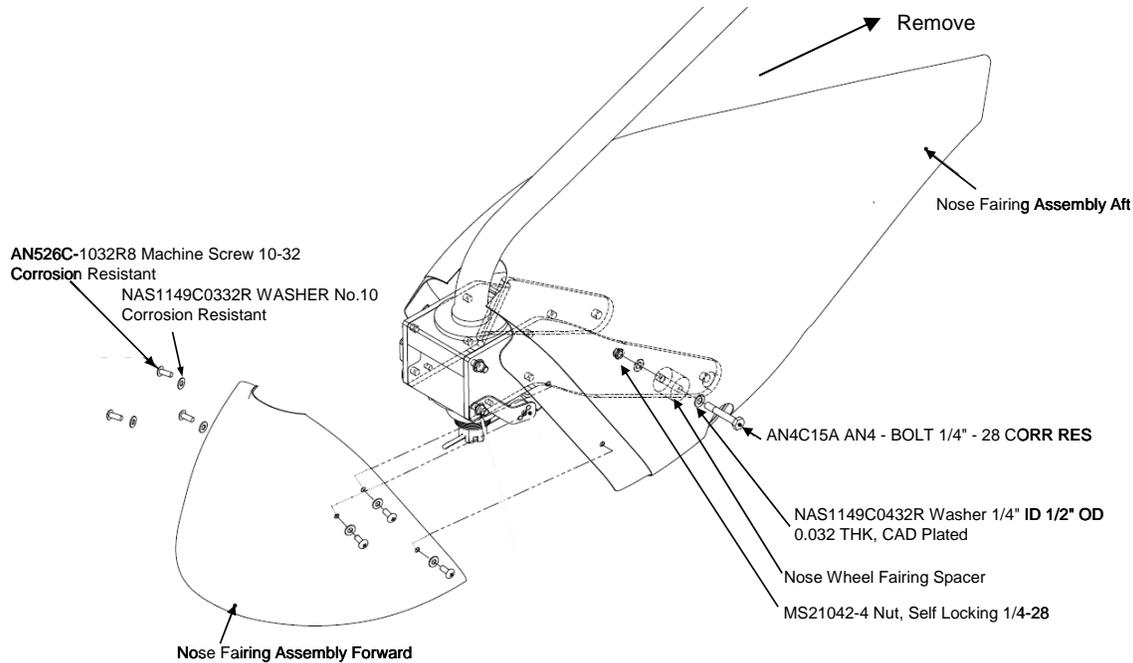

Figure 32-10 Nose Wheel Fairing Installation
2. Remove the nose wheel fairing assembly forward screws (6) and washers (6). Remove the nose fairing assembly forward as shown in Figure 32-10.
3. Remove the nose wheel fairing assembly aft bolts (2), spacers (2), and washers (4). Remove the fairing aft clear of the nose wheel assembly as shown in Figure 32-10.
3. Install the fairing aft nose wheel assembly as shown in Figure 32-10. Install the nose wheel fairing assembly aft bolts (2), spacers (2), and washers (4). Do not torque hardware at this time.
4. Install the nose fairing assembly forward as shown in Figure 32-10. Install the nose wheel fairing assembly forward screws (6) and washers (6). Do not torque hardware at this time.